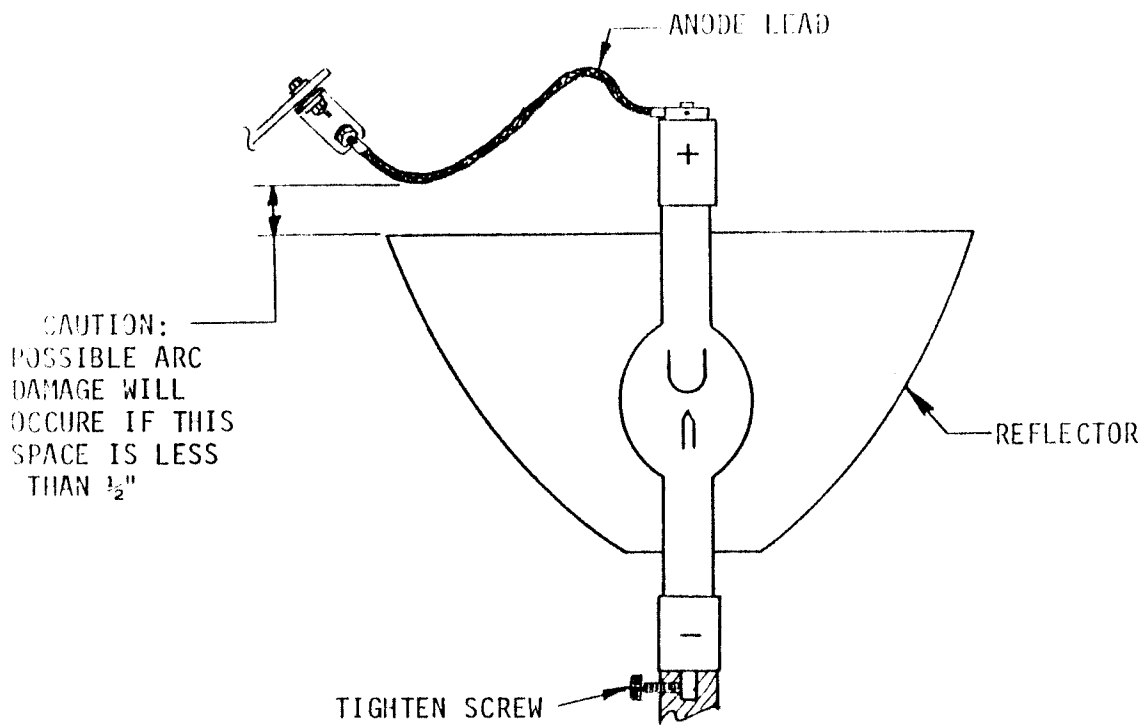

Figure 2-4. Xenon Lamp Installation
- h. Connect anode lead to anode strap. (See Figure 2.4.)